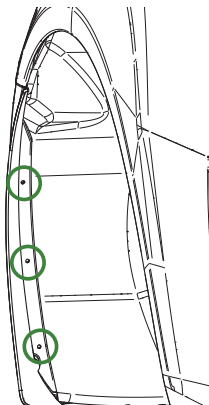

Figure 4 - Removing the Wheel Well Cover to Bumper Cover Screws
8. Use a 7 mm tool to remove the screws in the wheel wells that attach to the bumper cover, circled **green** in Figure 4.